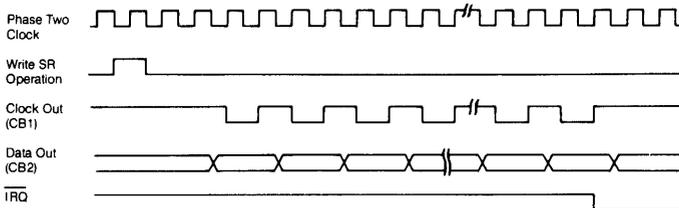

Figure 12. Shifting out under Control of System Clock
In this mode the shift register operation is similar to that shown in Figure 11. However, the shifting rate is a function of the system clock on the chip enable pin (02) and is independent of T2. Timer 2 resumes its normal function as an independent interval timer. Figure 12 illustrates the timing sequence for mode 110.